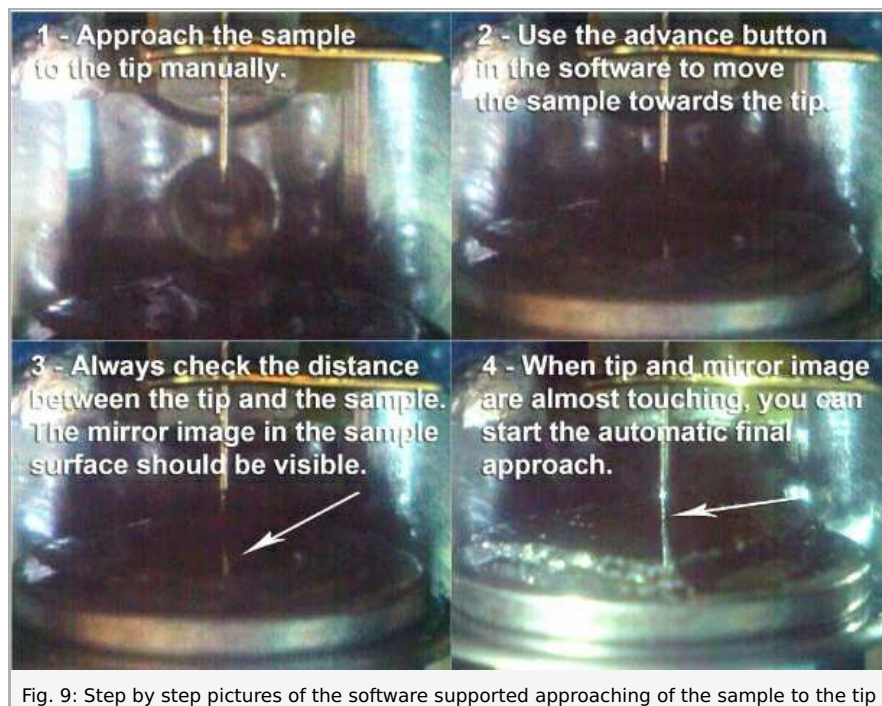

Fig. 9: Step by step pictures of the software supported approaching of the sample to the tip
- Push the sample holder carefully in the direction of the tip (b), but don't let it touch the tip (1 cm distance). See also the step-by-step pictures in Fig. 9.